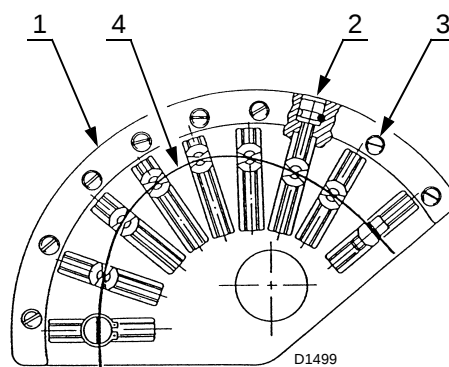

Fig. 35
Use the adjusters 2)(Fig. 35) after loosening the screws 3).
Key (Fig. 35)
- 6 Calibrate the air delivery by adjusting the variable profile cam with the screws 2)(Fig. 35).
- 9 With the optimal adjustment achieved, remember to lock the adjustment screws of the cam profiles by means of screws 3)(Fig. 35).